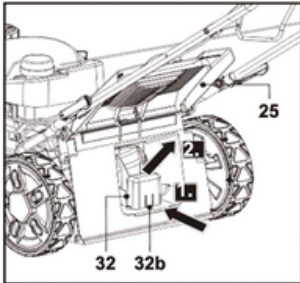

Fig. 17
2. Squeeze the locking latch (32b) and release it from the discharge chute opening (29a), then remove the mulching insert (32) (Fig. 17).